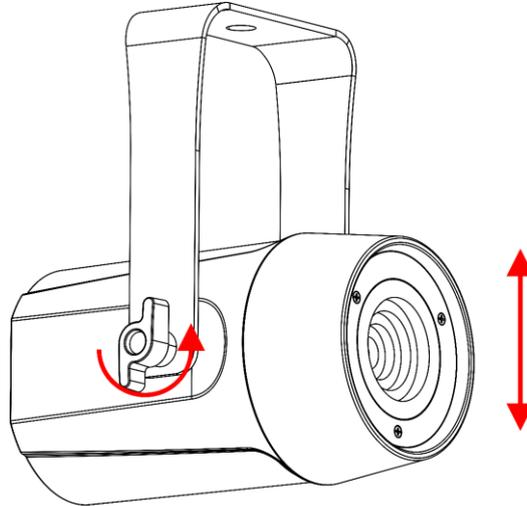

Fig. 06
- 01) Turn the 2 **adjustment screws (02)** counterclockwise to release them.
- 02) Tilt the device to the desired angle (see Fig. 06).
- 03) Turn the 2 **adjustment screws (02)** clockwise to tighten them. Make sure that the device cannot move freely after the 2 **adjustment screws (02)** are tightened.